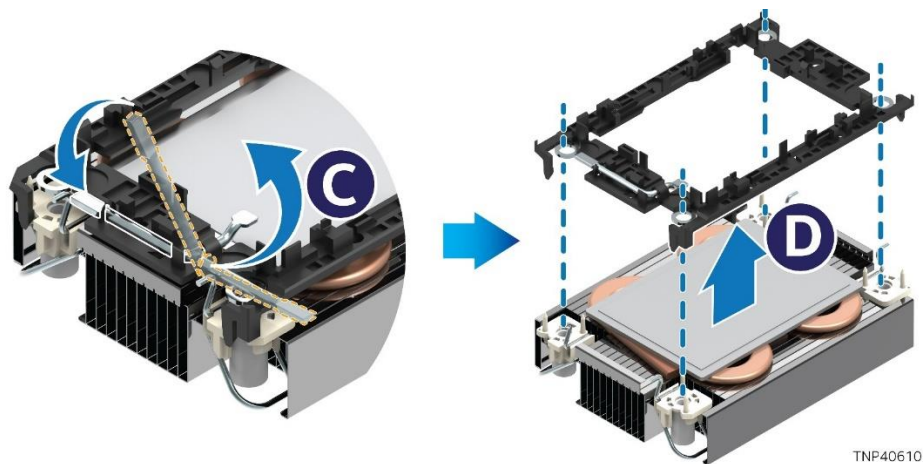

Figure 99. Processor Carrier Clip Removal from PHM Assembly
10. Return the lever to its original position and detach the processor carrier clip from the heat sink (see Figure 99).